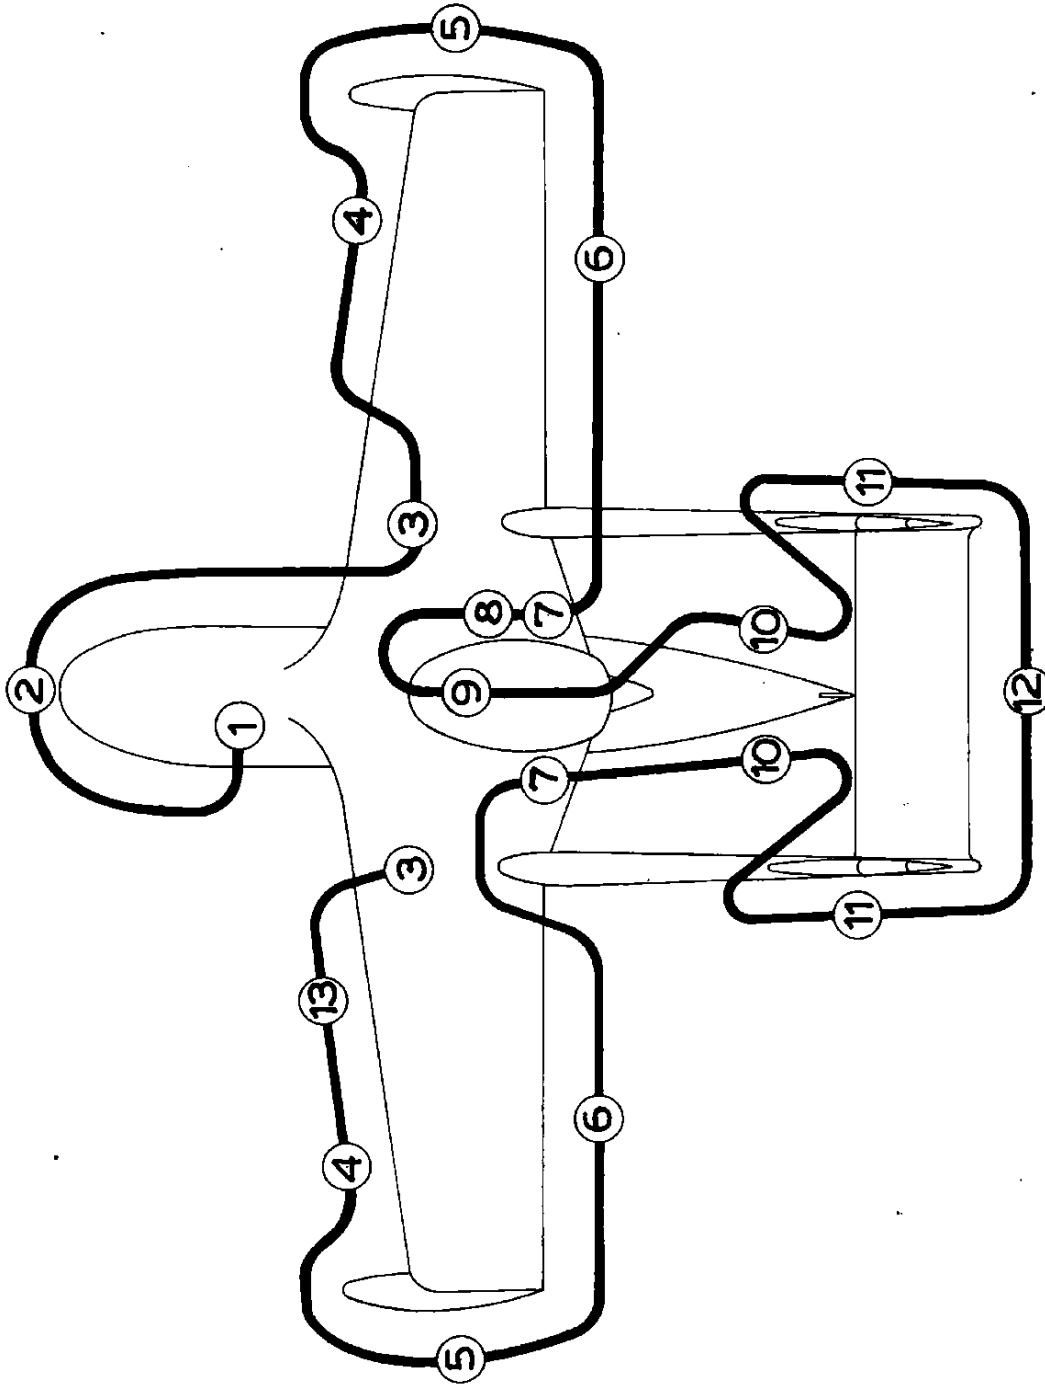

Figure II-1: Walk-Around Procedure
LEGEND FOR FIGURE II-1
- 1) Perform an exterior inspection (See Figure II-1).